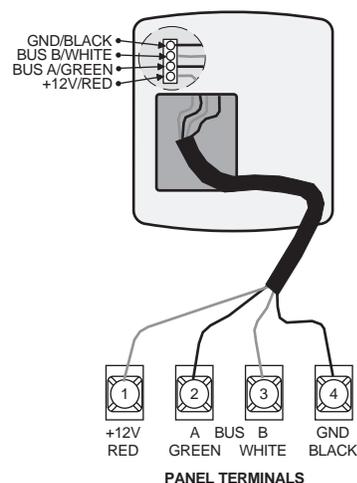

Figure 4. Wiring the Touchpad to Panel Terminals
4. Connect the touchpad wiring to the panel terminals as shown in Figure 4.